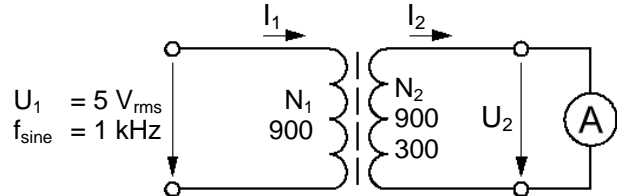

Fig. 18.4.6: Exercise circuit, transformer  $N_2=900$  or 300 with core
- Assemble the circuit as shown in Fig. 18.4.6 on the Electronic Circuits Board. First, use the secondary coil with  $N_2 = 900$  windings.
- Now, measure the primary and secondary current for both versions of the transformer. Here, the very low internal resistance of the ammeter present a load to the secondary circuit – as shown in Fig. 18.4.6. Enter the measured values in table 18.4.7.